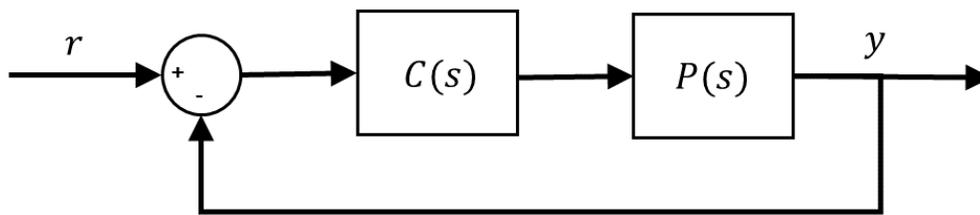

Figure 1.1: Closed-loop feedback loop
The closed-loop transfer function for a generic feedback loop as shown in Figure 1.1 is given as
1. Given the generic feedback loop diagram in Figure 1.1 where $P(s) = H(s)G(s)$ and $C(s) = k_p$, determine the closed-loop transfer function from $R(s)$ to $Y(s)$ in terms of k_p .